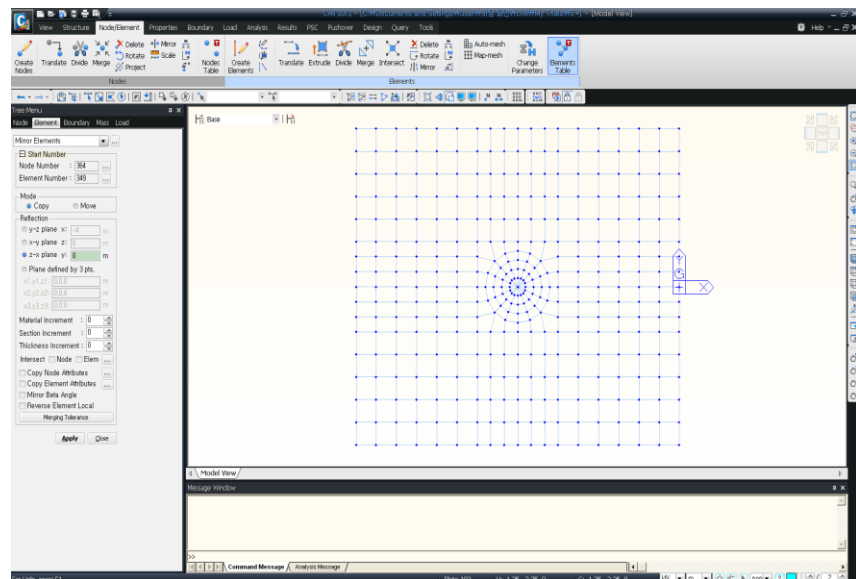

Figure 5.9 Completed Plate Elements for a half of the footing
12. Click **Apply** (Fig. 5.9).